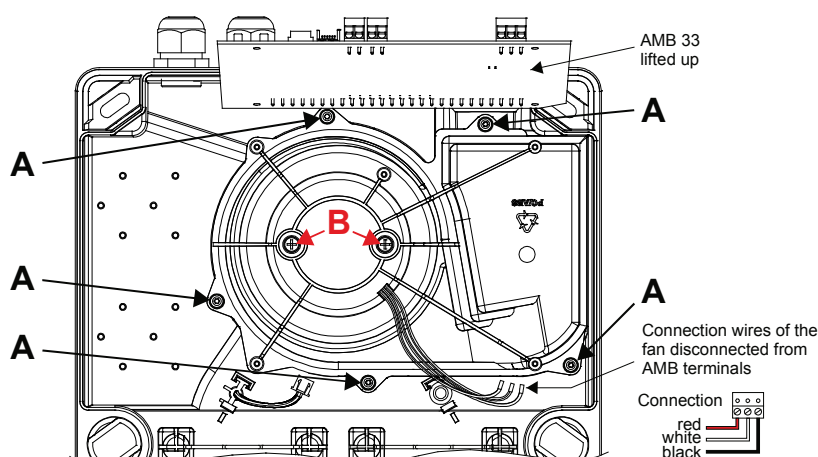

Fig. 49 Removing the aspirating fan unit
The AMB 33 main board has to be removed before the AFU 35 aspirating fan unit can be replaced. To do so, carefully unplug all the internal cable connections. Remove the fan's three connection wires from the terminals. The plug-in terminals 1 to 26 do not necessarily have to be unplugged. After removing the fastening screws on the AMB 33 using a **Torx T10 screwdriver**, the AMB 33 can be lifted up toward the cable infeeds and the fastening screws on the aspirating fan unit are then accessible. To dismantle the aspirating fan unit, remove the five screws **A** using a **Torx T15 screwdriver** (see Fig. 49).
- When connecting the new aspirating fan unit, take note of the wire colour coding (see Fig. 49).